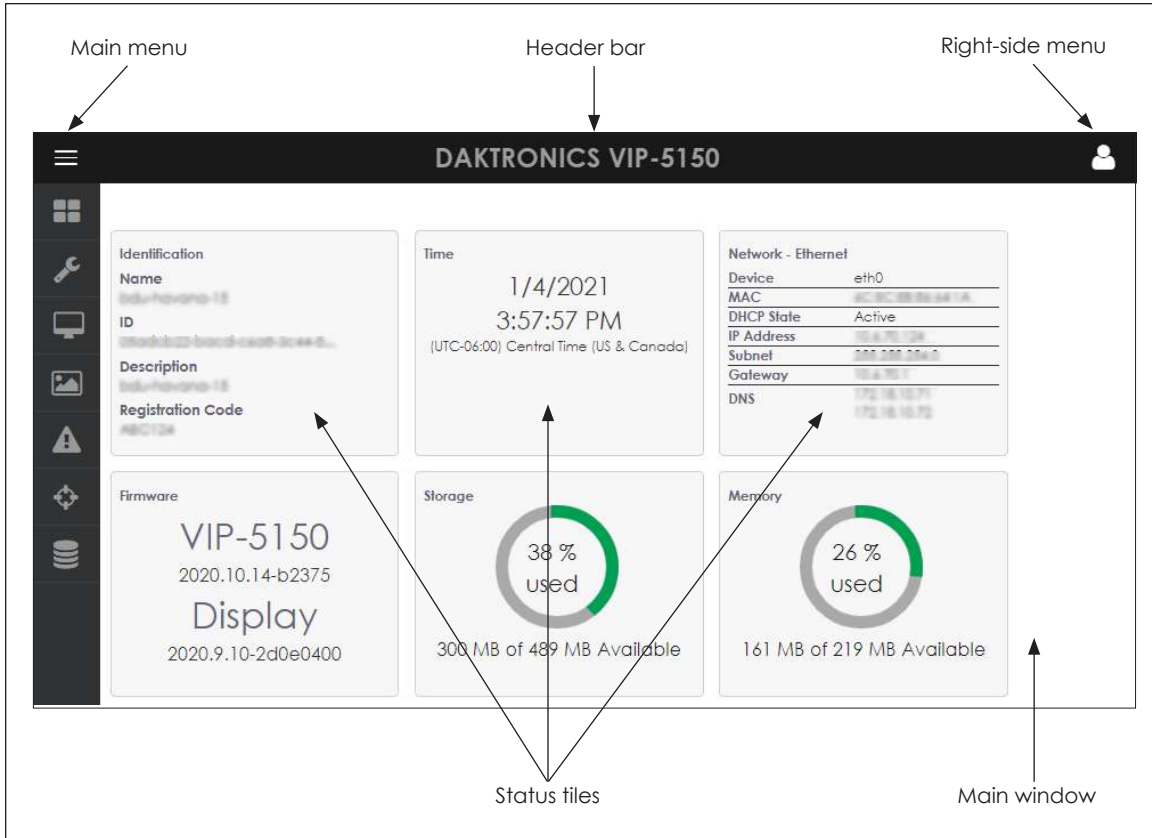

Figure 4: Interface Elements
The VIP-5000 series processor interface includes elements that are always visible to the user, including a header bar, main menu, right-side menu, and main window. Refer to **Figure 4**.
- **Main window** displays elements, information, and data related to current user selections and system triggers. The example in **Figure 4** shows the initial **Dashboard** screen with status tiles in the main window.